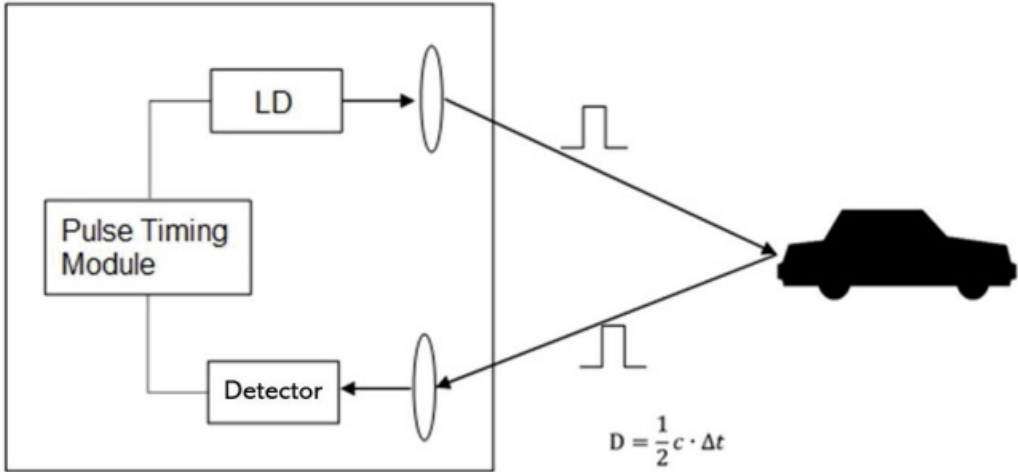

Figure. 1: Pulsed time of flight
- **Figure. 1:** Pulsed time of flight